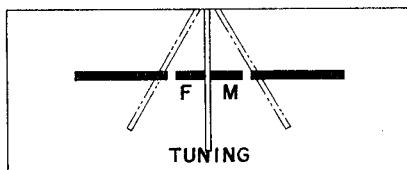
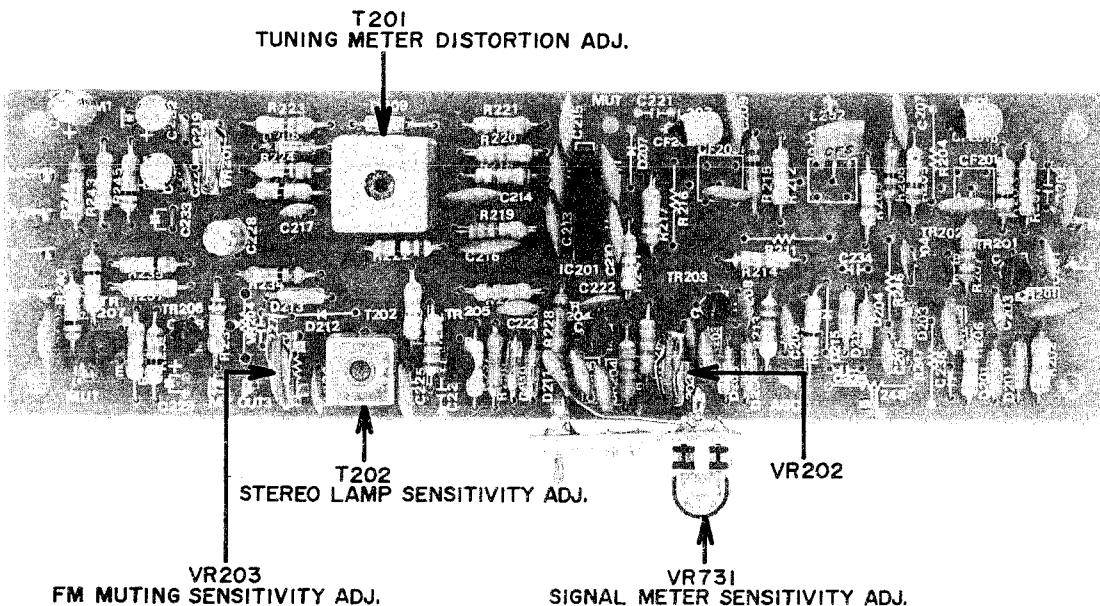
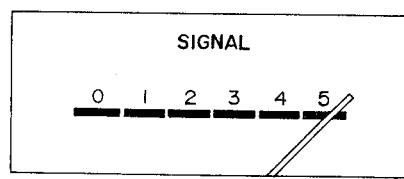
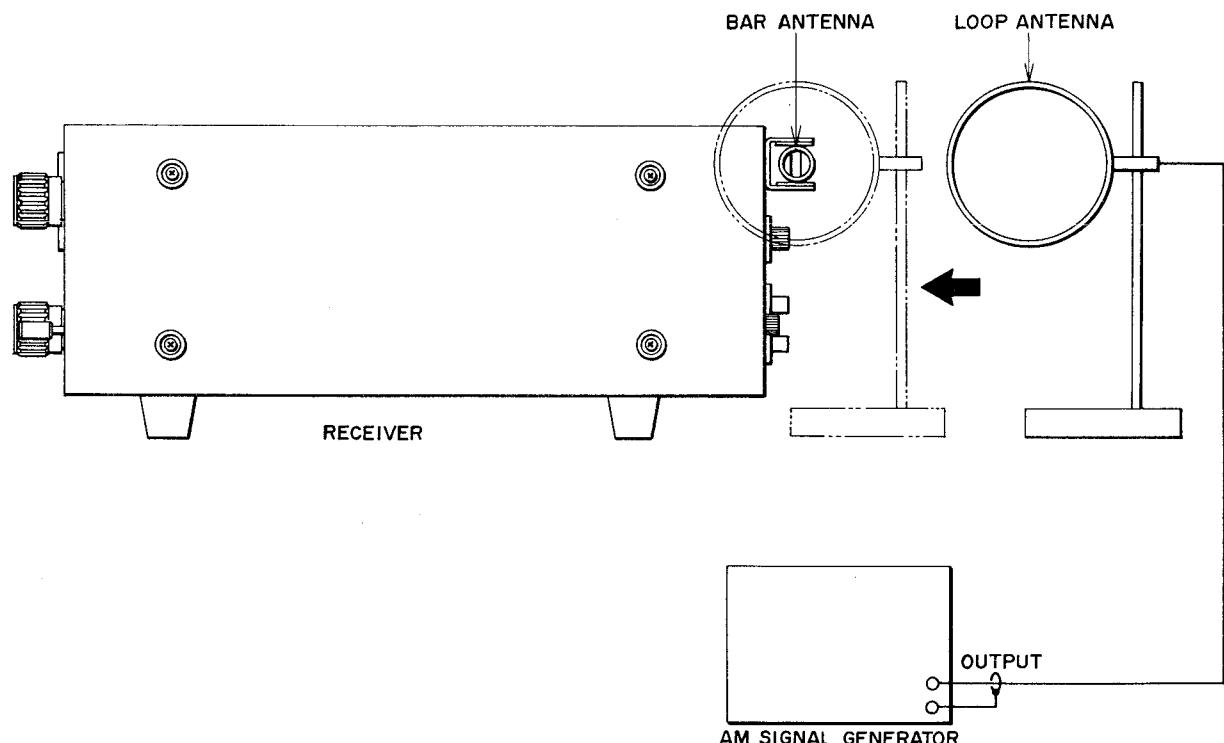

Fig. 14 TUNING METER M2
Fig. 15 FM IF AMP. P.C. BOARD 2014
Fig. 16
Fig. 27
After completing the adjustments outlined in parts 1, 2, and 3, set the FM signal generator attenuator to "0" (non-output condition), and adjust the upper core of FM IF Amp. P.C. Board coil T201 shown in Fig. 15 until the tuning indicator of tuning meter M2 comes to the center as shown in Fig. 14. Then set receiver dial to 98 MHz, supply a 98 MHz (400 Hz, 75% internal modulation) 66 dB signal from the FM signal generator, and fine-adjust the lower core of coil T201 for minimum distortion factor.
- 4) Under these conditions, adjust FM IF Amp. P.C. Board semi-fixed resistor VR-731 (20 kB) in Fig. 15 so that the indicator comes to the center of the extreme right hand block of the signal meter scale as shown in Fig. 16.
- 1) Connect the various measuring instruments as shown in Fig. 27.
- 4) Adjust AM IF Amp. P.C. Board semi-fixed resistor VR-401 (20 kB) shown in Fig. 22 so that when the loop antenna is brought close to the bar antenna (indicated by dotted lines) as shown in Fig. 27, the signal meter M1 indicator comes to the center of the extreme right hand block of the scale as shown in Fig. 16.
- 4) Adjust AM IF Amp. P.C. Board semi-fixed resistor VR-401 (20 kB) shown in Fig. 28 so that when the loop antenna is brought close to the bar antenna (indicated by dotted lines in Figure) as shown in Fig. 27, the signal meter M1 indicator comes to the center of the extreme right hand block of the scale as shown in Fig. 16.